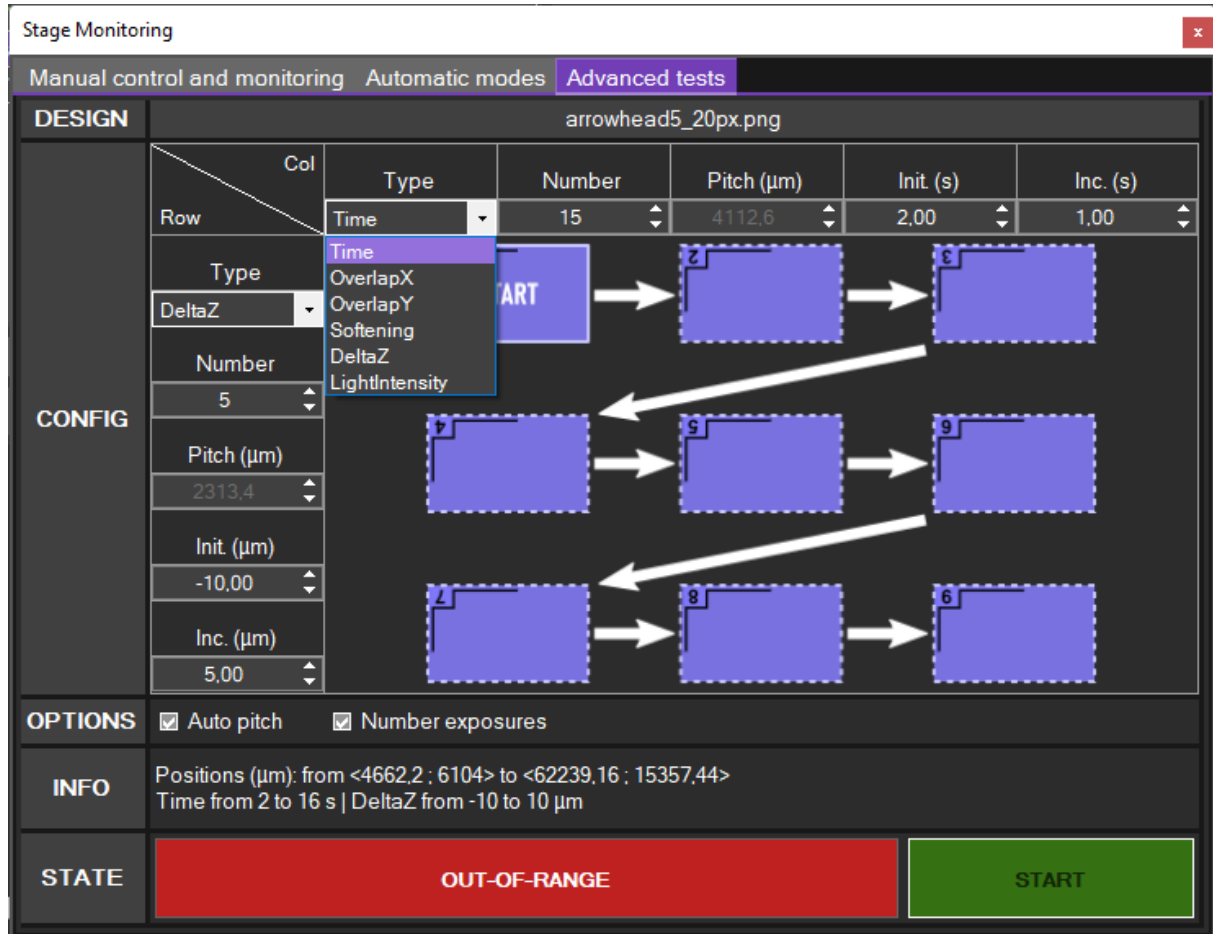

Figure 47 - Advanced tests tab: choice of parameters and warning state
- In the Advanced tests tab, choose the parameter to test along col axis in the **Type** dropdown list as seen in Figure 47. All available types are described below.
NOTE: the array of test is sequentially exposed on raster scan pattern type as schematized in Figure 47.